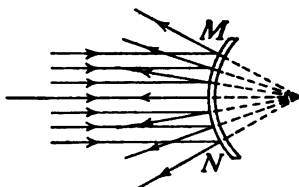
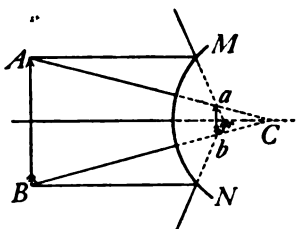

FIG. 362.—Action of a convex mirror upon parallel rays of light.
FIG. 363.—Construction of an image by a convex mirror.
**372. The Convex Mirror.**—There are few practical uses to which convex mirrors can be put. They are sometimes used to give the chauffeur of an automobile a view of the road behind him. It is then attached to the wind shield by a short rod. The reflected rays coming from a convex mirror are always divergent (see Fig. 362), hence the image is always virtual and located behind the reflecting surface. The method of construction for images formed by a convex mirror is similar to that for concave mirrors. (See Fig. 363.) The center of curvature and principal focus are behind